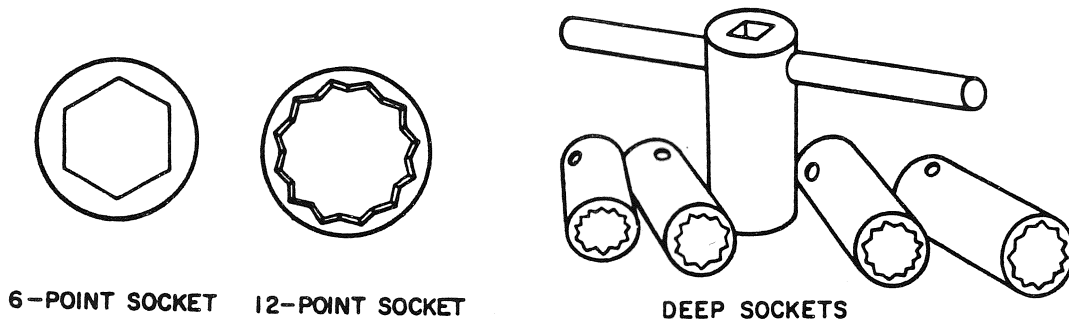

Figure 10.30. Ratchet Handle and Deep Sockets
4. Socket wrench sets also contain extra deep sockets for use on nuts which are a long way down on the bolt, or for bolts that are in recessed holes. (Figure 10.30)